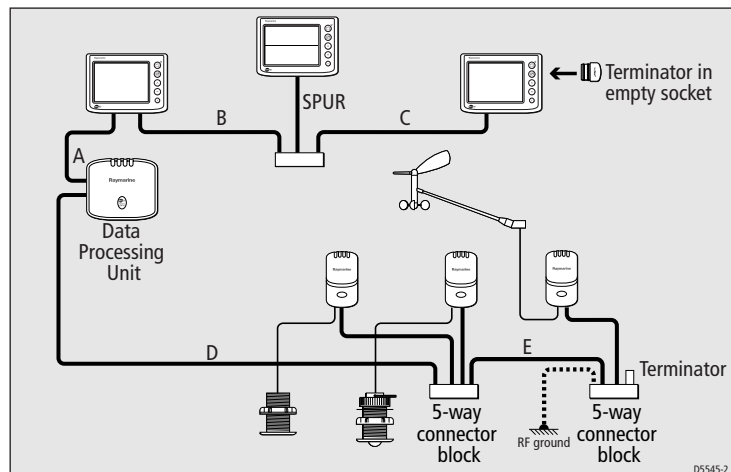

Figure 1-10: SeaTALK² dimensions
- A terminator plug is required AT EACH END of the main SeaTALK² cable run (see *Figure 1-10*).
- The total length of the SeaTALK² main cable run must be no more than 655 ft (200 m). The main cable run is defined as the total length of cable between the two terminators. For example, in *Figure 1-10*, the length of the main cable run is the sum of distances A+B+C+D+E.